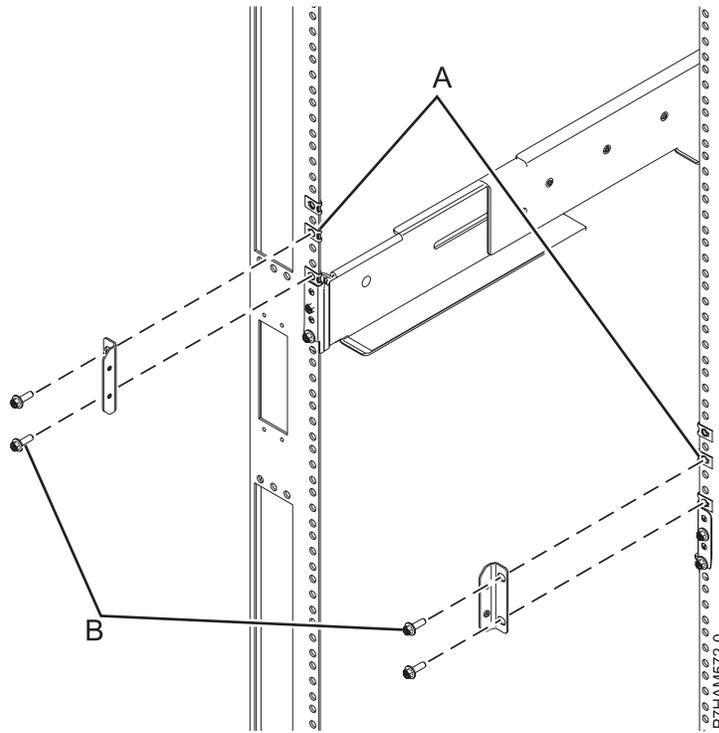

Figure 13. Installing the retention brackets
- m. At the rear of the rack, install retention brackets **(A)** on the left and right rack flanges, as shown in Figure 13 on page 14. Attach each bracket by applying M5 screws **(B)** to the two locations directly above the rail clamp where nut clips have been installed.